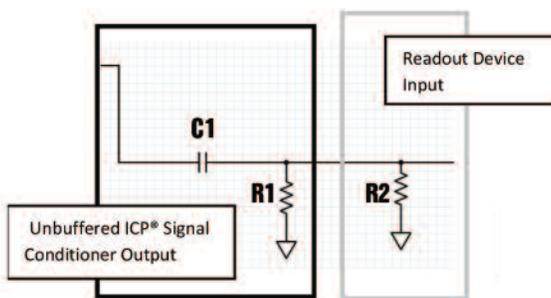

Figure 1 - Unbuffered Circuit Schematic
1. Unbuffered output: The output impedance of the conditioner is set by a series capacitor and a shunt resistor. This resistor forms a parallel circuit with the input impedance of the readout device (see Figure 1).
Key for Figures 1 and 2
- R1** (in Figure 1) = Output resistor that sets the output impedance of signal conditioner
C is the capacitance value of the signal conditioner output coupling capacitor. R is not the signal conditioner output impedance. The signal conditioner output impedance and the readout device input impedance are in parallel (Figure 1). This makes R the total parallel impedance of this portion of the circuit. The total R value is dependent on both the impedance value of the signal conditioner and the readout device. This is critical because the R value in the DTC equation is a system impedance. Total parallel impedance is calculated by Equation 2.